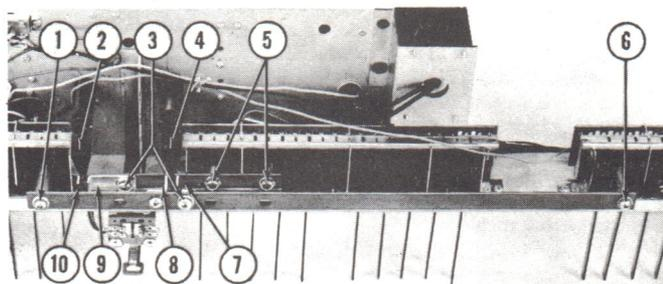
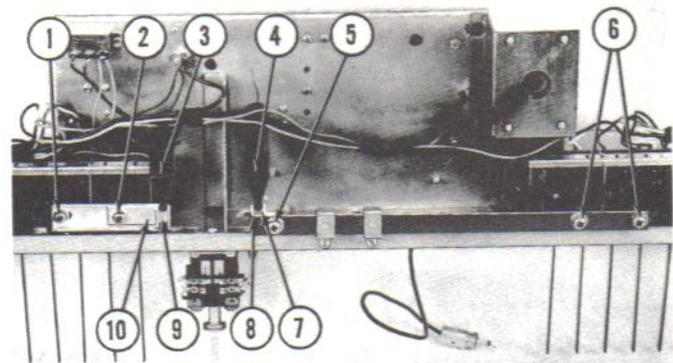
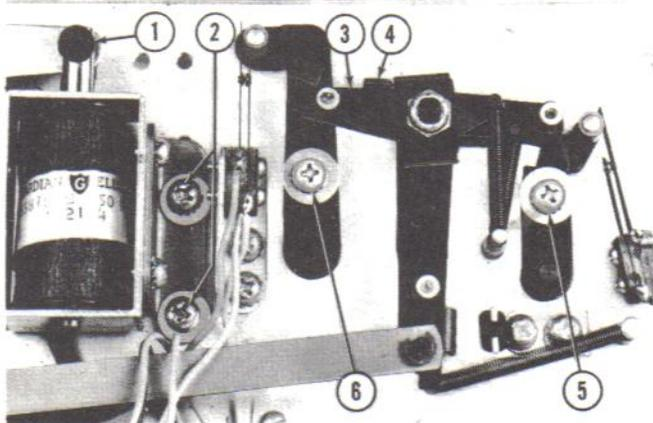

Fig. 12. CONNECTOR LINK ADJUSTMENT - 2500
Fig. 14. CONNECTOR LINK ADJUSTMENT - 2510
Fig. 15. PRELIMINARY ADJUSTMENT OF LATCH SOLENOID
Figure 12 shows the underside of the 2500 Selector Switch Assembly. Should any adjustments be
(1) Loosen the linkage adjusting screws (Fig. 12, Items 1, 3, 5 & 6) and the two latch lever adjusting screws (Fig. 15, Items 5 & 6). Check all selector switch push rods and latch bars for freedom of action. If any bind exists, correct before proceeding with the adjustments.
(2) Hold the selector switch assembly with the push rods down as shown in Figure 12 and allow the selector switches to assume their natural rest position. Allow the shaft, link and lever assemblies (Items 2 & 4) to fall into their natural vertical positions. Maintain this position and set the connecting links (Items 8 & 10) to zero clearance with the shaft, link and lever assemblies (Items 2 & 4). Tighten the screws (Items 1, 5 & 6).
(3) Set the adjustable clips (Items 7 & 9) to minimum clearance with the shaft, link and lever assembly (Items 2 & 4) and tighten the screws (Item 3). Check for complete freedom of action. If any bind exists repeat the foregoing adjustments.
adjusting screws (Fig. 15, Items 5 & 6). Check all selector switch push rods and latch bars for freedom of action. If any bind exists, correct before proceeding with the adjustments.
Figure 14 shows the underside of the 2510 selector switch assembly. Should any adjustment be required, readjust the entire assembly through the following sequence:
(1) Loosen the linkage adjusting screws (Fig. 14, Items 1, 2, 5 & 6) and the two latch lever adjusting screws (Fig. 15, Items 5 & 6). Check all selector switch push rods and latch bars for freedom of action. If any bind exists, correct before proceeding with the adjustments.
(2) Hold the selector switch assembly with the push rods down as shown in Figure 14 and allow the selector switches to assume their natural rest
Loosen the latch solenoid adjusting screws (Fig. 15, Item 2). Manually hold the solenoid plunger (Item 1) firmly bottomed in the solenoid and set the solenoid to provide $3/64$ " maximum clearance between the tab on the release lever (Item 4) and the trip lever (Item 3). The plunger travel should not exceed $3/16$ of an inch.
(1) The latch adjusting screws (Fig. 15, Items 5 & 6) were loosened to perform the link ad-
(1) Loosen the latch solenoid adjusting screws (Fig. 15, Item 2). Manually hold the plunger (Item 1) firmly bottomed in the solenoid. Move the solenoid to provide $5/64$ of an inch maximum clearance between the tab on the release lever (Item 4) and the letter trip lever (Item 3).
(2) The plunger travel should not exceed $3/16$ of an inch. Check the release lever action for mechanical bind of plunger in latch solenoid.